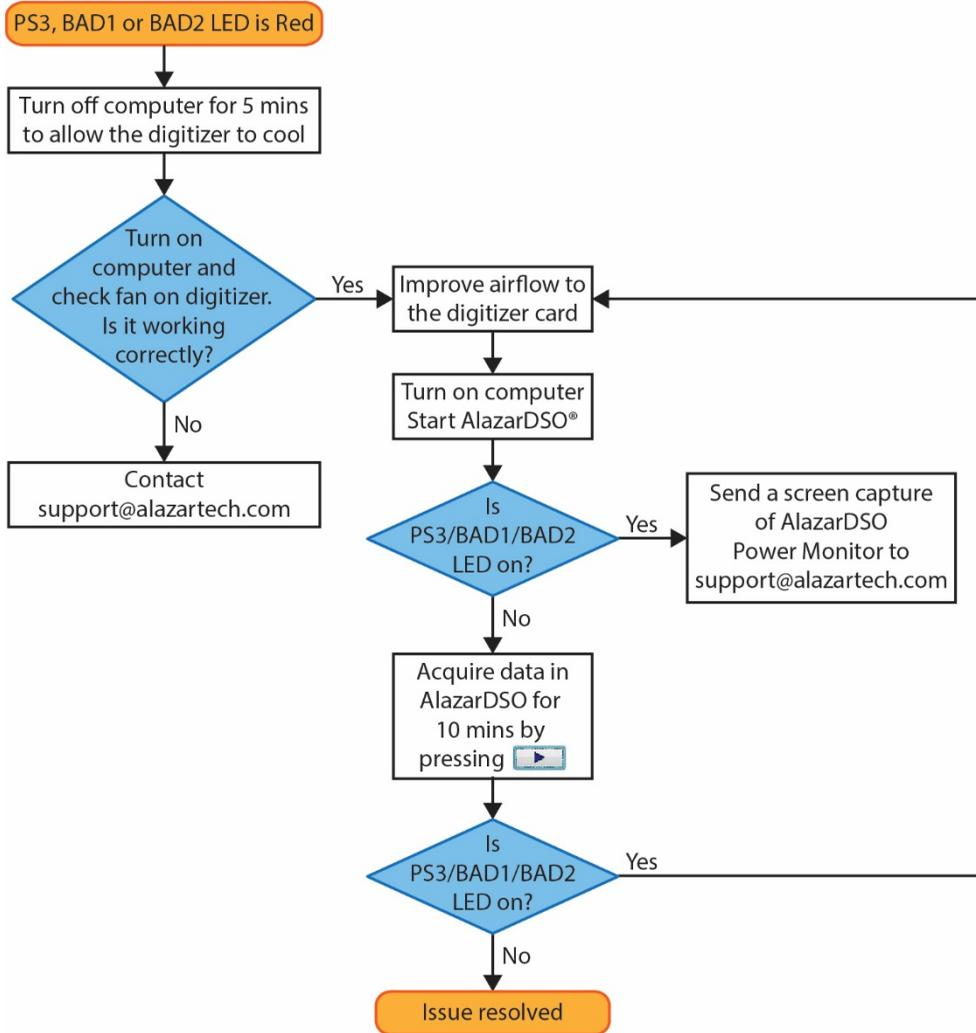

Figure 4 – Flowchart for Power Monitor Status LEDs
- **LED2 (PS3):** Power Monitor error output from the board. This LED being red indicates that there is an overheating or power supply issue. Figure 4 – Flowchart for Power Monitor Status LEDs for steps to follow if this LED is red.
- **BAD1 (LED3):** Power Monitor error output from the board. This LED being red indicates that there is an overheating or power supply issue. Refer to Figure 4 – Flowchart for Power Monitor Status LEDs for steps to follow if this LED is red.
- **BAD2 (LED4):** Power Monitor error output from the board. This LED being red indicates that there is an overheating or power supply issue. Refer to Figure 4 – Flowchart for Power Monitor Status LEDs for steps to follow if this LED is red.